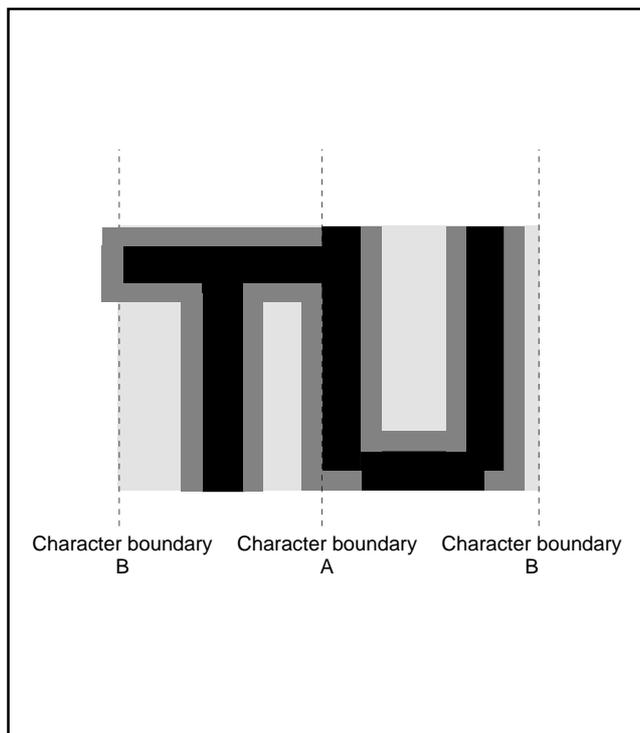

Fig. 76. Border priority
**3 :** When the border dot overlaps on the next character font, the character font has priority (refer to Figure 76 A). When the border dot overlaps on the next character back ground, the border has priority (refer to Figure 76 B).